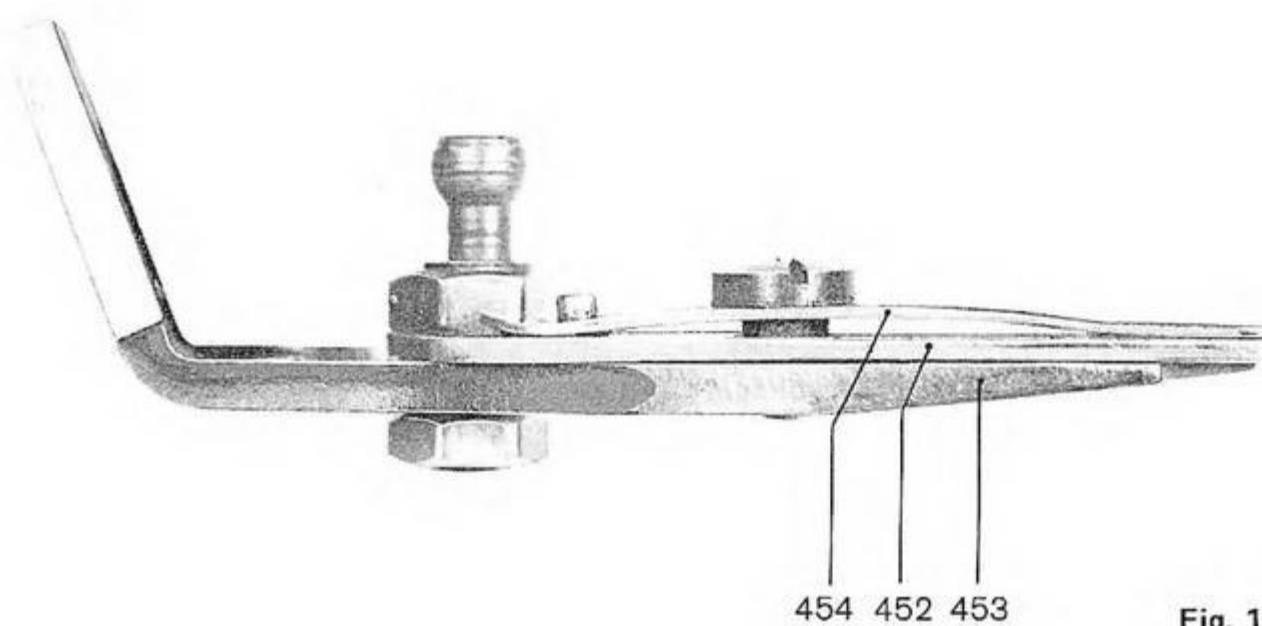

Fig. 106
1. Check first the upper knife 452 (fig. 106), the lower knife 453 and the clamping plate 454.